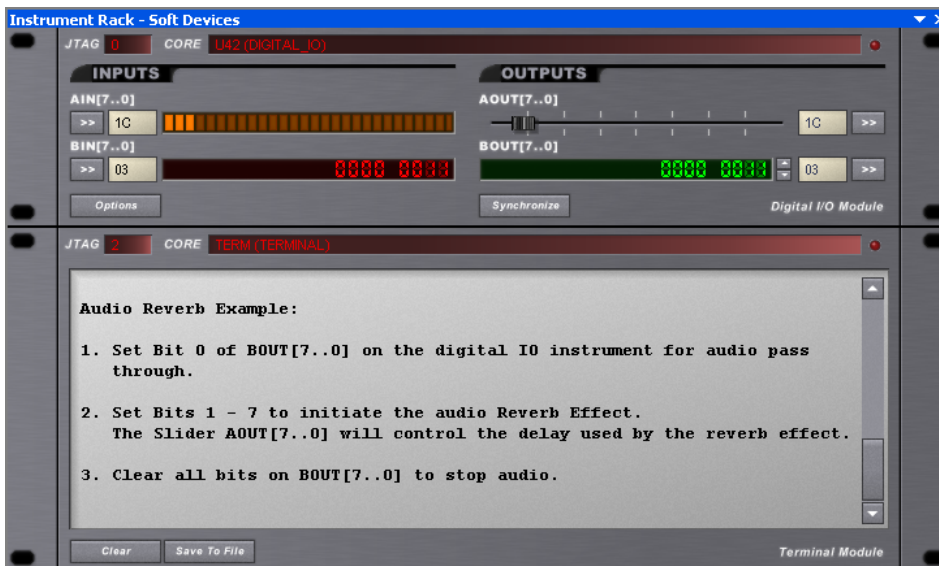

Figure 18. Instrument Rack – Soft Devices
8. Right click the Terminal Instrument and select **Instrument** to launch the device's Instrument Rack. The Terminal Instrument should display a list of instructions as they appear in Figure 18. (These instructions are created using `printf` commands in the `main.C` source file).